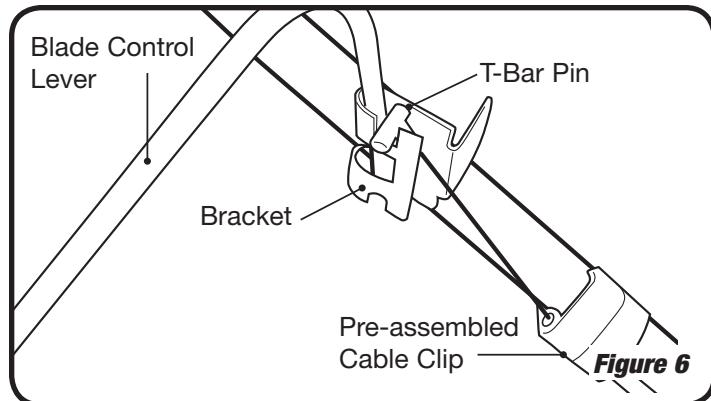

Figure 6
1. Insert the T-Bar pin into the Bracket as shown in Figure 6.